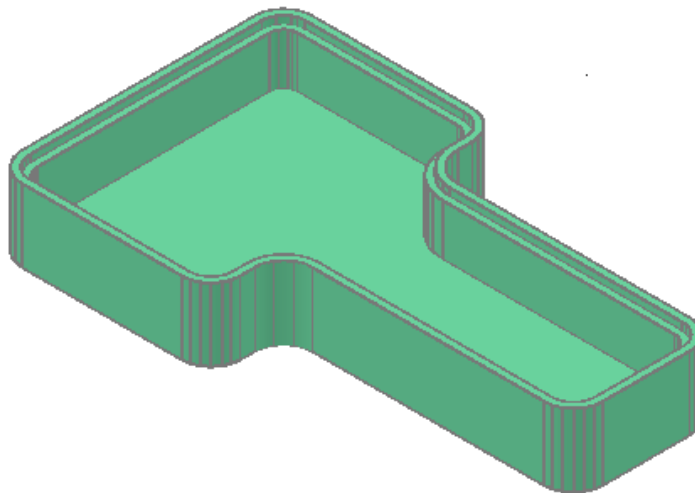

Figure Step 21
Step 21 Using the SUBTRACT command, subtract the solid that was created using the SWEEP command from the original solid. (Figure Step 21)